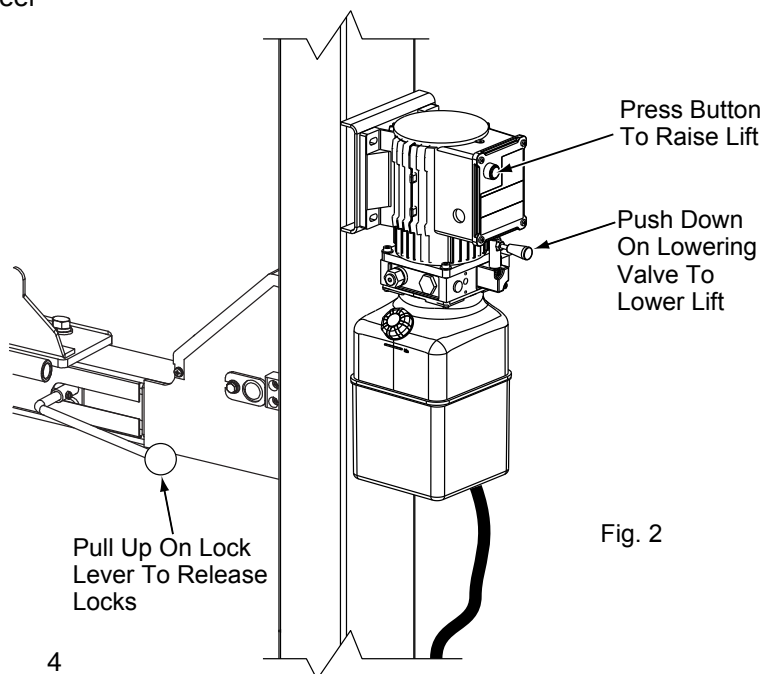

Fig. 2
5. To Raise Lift: Push the "RAISE" button on the power unit. Release button at desired height, Fig. 2.
11. Actuate the latch release handle to disengage all four locking latches, Fig. 2. Hold handle until lift has fully lowered.
12. Push the lowering handle on the power unit to lower lift, Fig. 2. Lowering speed can be controlled by the force applied to the lowering handle.